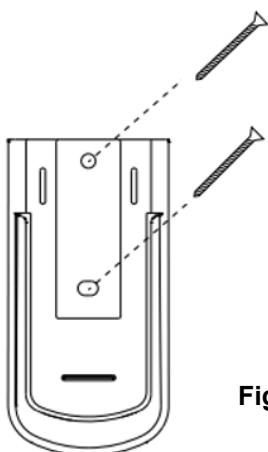

Fig. 12a
- Locate a suitable wall to fix the remote control holder with the 2 screws. (Fig.12a).